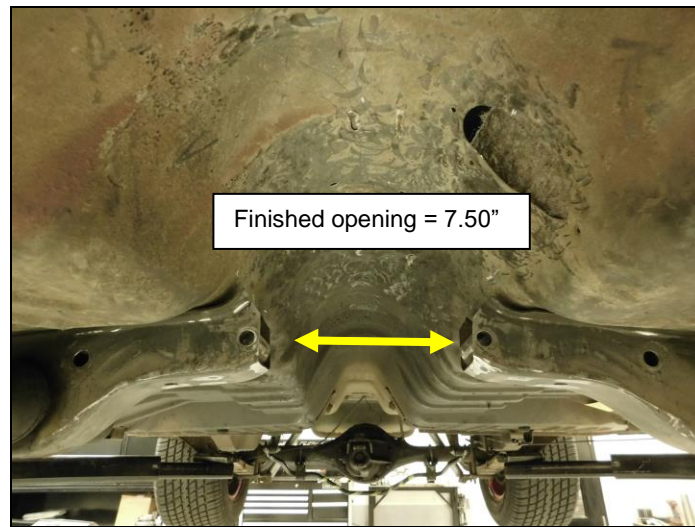

Figure 3
3. Cut along the vertical reference line using a right angle grinder and cutoff wheel. Take your time and make a clean vertical cut making sure to stay on the inside of the vertical reference line. Resist the need to take more material than necessary, more material will be removed with the grinder and flap wheel after the initial center section of the torsion bar crossmember is removed (**Figure 3**).
5. Using the grinder with the flap wheel, carefully trim the opening back to the support bushings. The finished opening will be 7.5" wide to allow the BHS588 support to be installed after the sheet metal and final trimming work are completed (**Figure 3**).